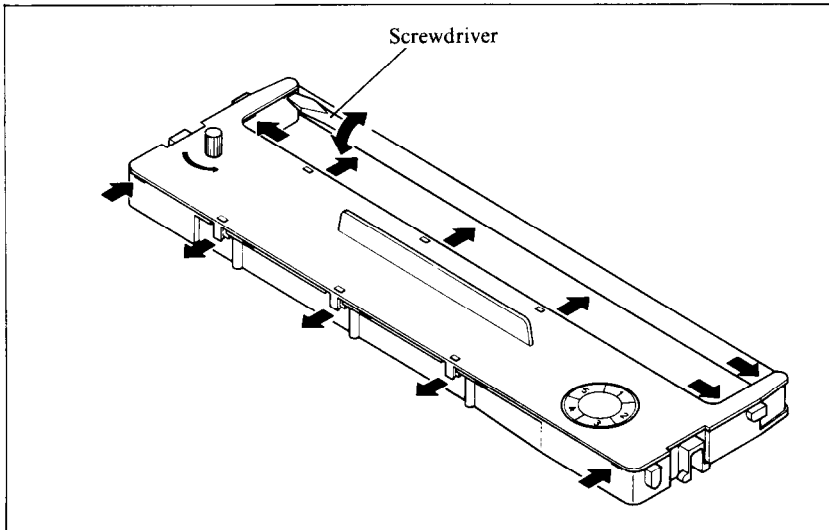

Figure 11-1. Use a screwdriver to pry open the cartridge.
3. Unhook the six tabs of the cartridge cover lightly with your fingers, as shown in Figure 11-1.
4. Pry open the cartridge cover with a thin-bladed screwdriver. Arrows in Figure 11-1 show the numerous slots for inserting a screwdriver.